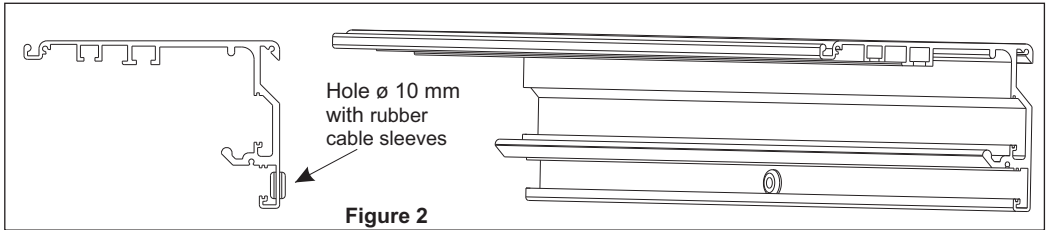

Figure 2
- Thread the power cable through the cable sleeve as shown in figure 2.